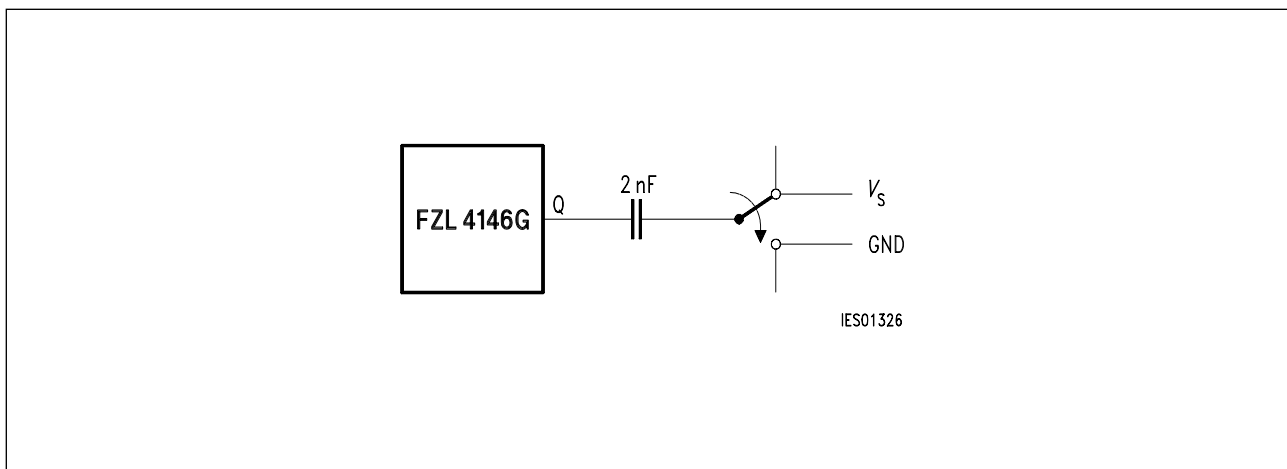

Figure 1
- 18) Dynamic charge reversal of a 2-nF capacitor as in **figure 1** is permissible (corresponds to short circuit to conducting output in P-channel MOSFET)